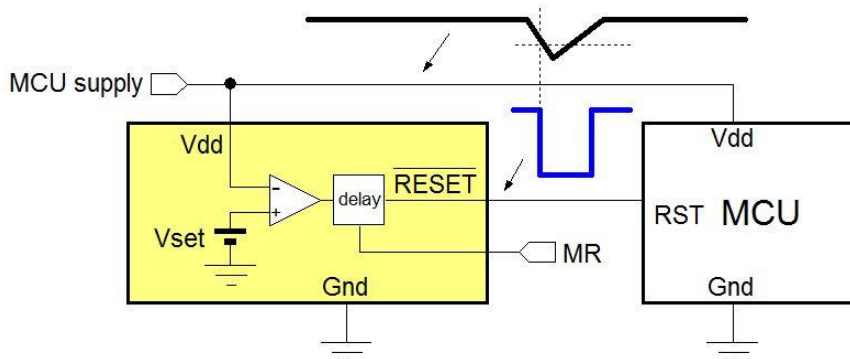

Figure 8. A supply supervisor IC that detects supply under-voltage conditions
**Supply supervisor ICs** will monitor a supply rail for over- or under-voltage conditions. Figure 8 shows a typical supply supervisor that checks for supply under-voltage conditions. When the supply rail drops below a certain level, the IC will initiate a reset signal. This signal can then be used to reset the MCU that is fed by the same supply rail, to avoid any data corruption that could occur due to too low MCU supply voltage. When the supply voltage recovers to normal levels, the supervisor IC will remove the reset signal with some delay, to ensure correct MCU initialization.